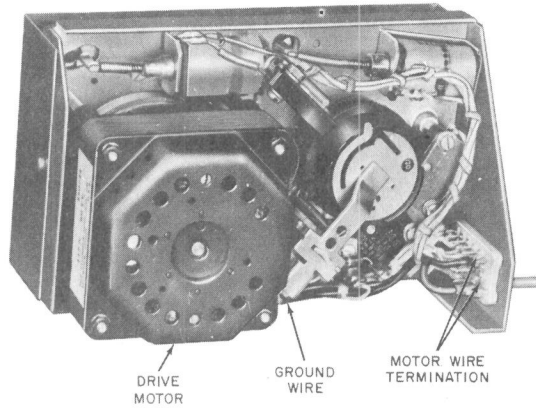

Fig. 5—KS-19245, List 2 Recorder, Motor Side
4.01 KS-19245, List 2 Recorder (Fig. 5):
5. REPLACEMENT OF BELT ON KS-19245, LIST 2 RECORDER (Fig. 5)